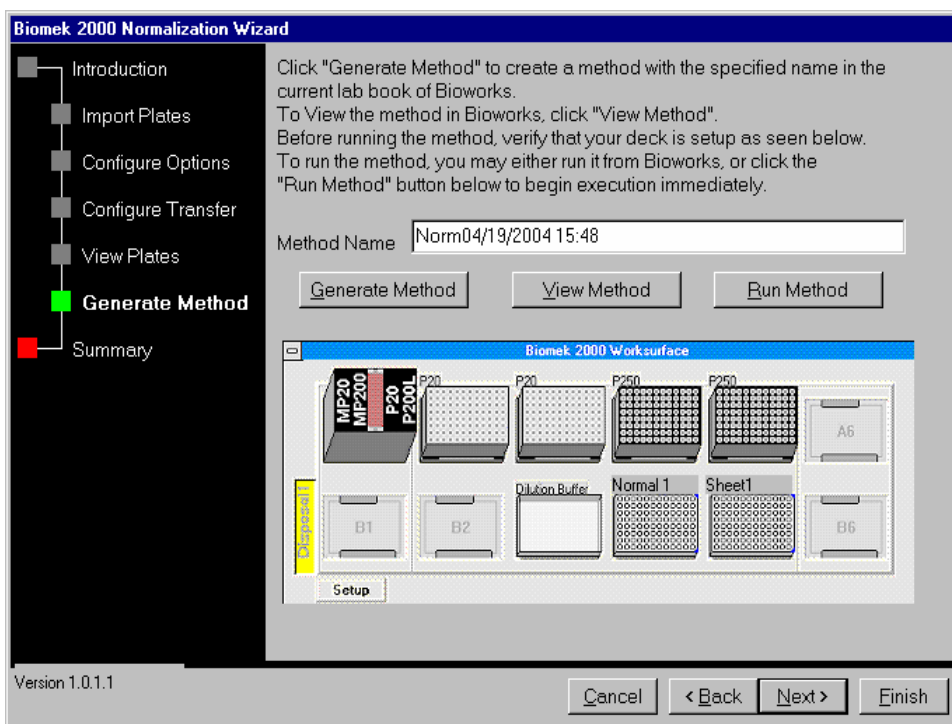

Figure 13. Generate Method
- 5.5.9 The Generate Method dialog screen will appear (Figure 13). The Method name will have the date and time that the normalization procedure was created (i.e., Norm04/19/2004 15:48). **DO NOT CHANGE THE METHOD NAME.** Click on the ‘Generate Method’ button to create the new normalization method to be created. This creates the customized dilution method which can be accessed in the Lab Book that is currently open. Delete the specific normalization method generated after completion, using the delete function under Edit in the Bioworks folder.